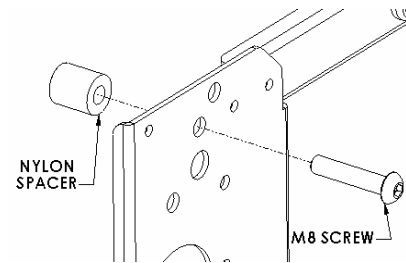
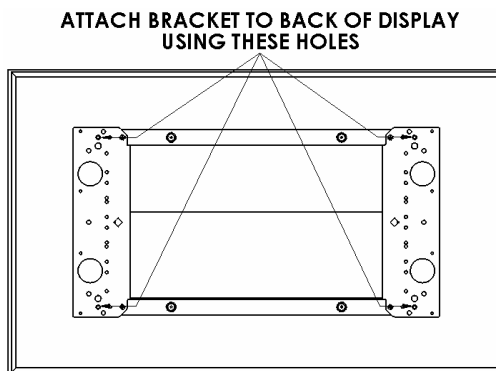

Figure 6
Figure 7
3. Place Nylon spacers over mounting holes on back of screen. Attach mounting brackets to display using the M8 screws (see Figure 6 & Figure 7). If a video board is attached to the back of the display, stack two black Nylon spacers and attach bracket using the M8 x 60mm screws.